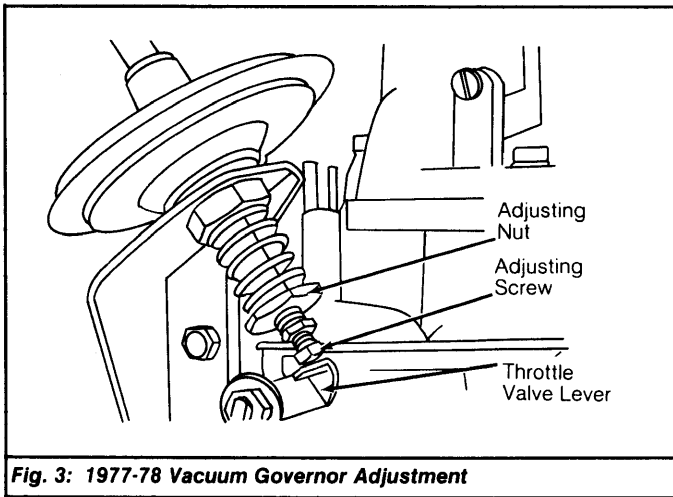

Fig. 3: 1977-78 Vacuum Governor Adjustment
4) With engine running at idle, remove hose from vacuum governor and adjust screw on throttle valve lever to obtain 1200-1400 RPM. See Fig. 3. Reinstall vacuum hose. Clearance between lever and screw should be .020" (0.5 mm). If necessary, adjust clearance by turning large adjustment nut.